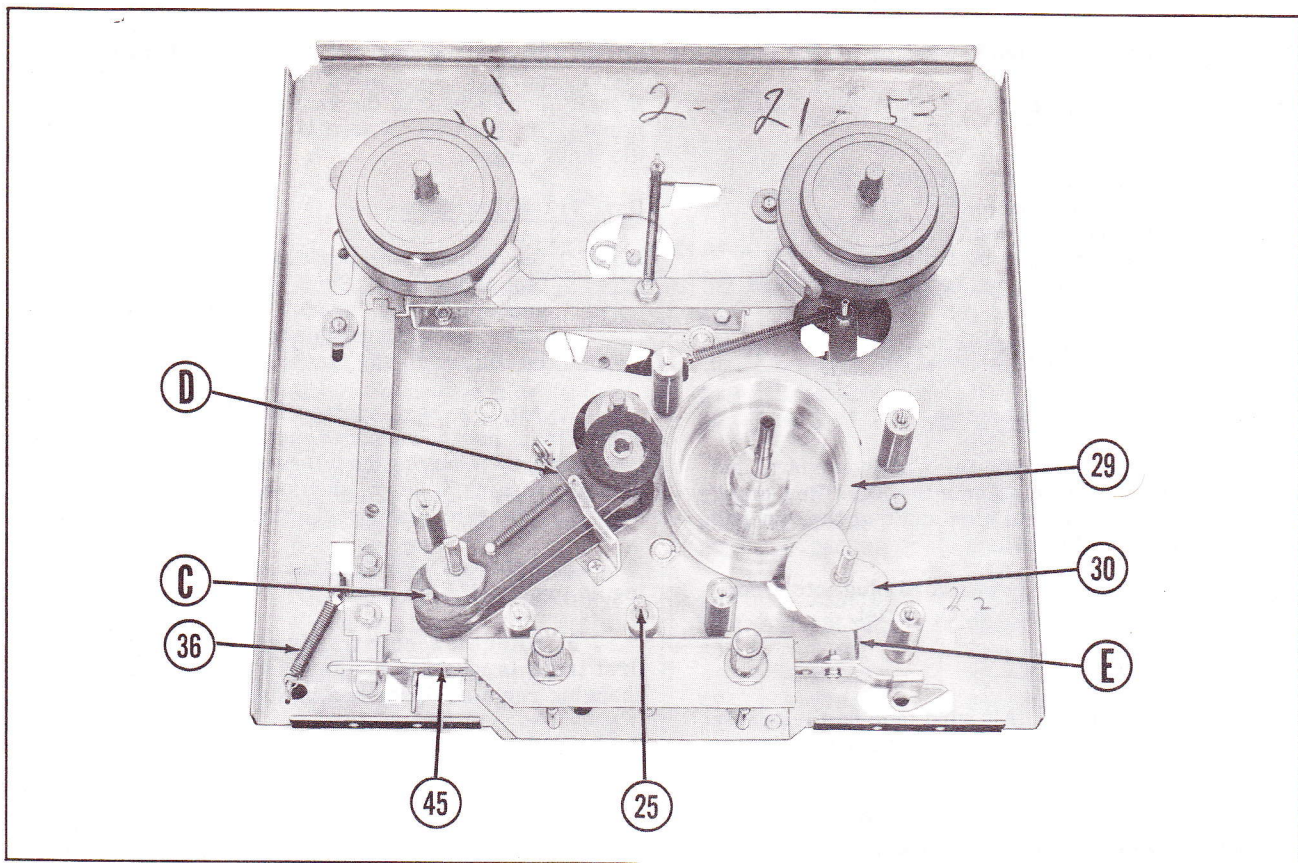

Figure 2
Loosen the fast forward adjustment screw (see Figure 2) about $1/2$ turn. To tighten belt, reach under bottom plate and slide the fast forward and play pulley assembly (71) away from the take-up reel support (8). Move very little at a time as this adjustment is very critical. After adjustment is made, tighten screw.
(Refer To Exploded View And Figure 2)-
1. (For units with serial #14,000 to 15,200 and for units with serial numbers beginning with 25,000, 35,000 and 45,000). Speed cams (40), (41), and (42) must clear the control pins (point "C" Figure 2) by approximately 1/16" when that particular slide is engaged. Position of motor on motor mounting plate and position of motor mounting plate on spacers will effect this. See paragraph on motor mounting.
The control pins (point "C" Figure 2) must be in the center of the speed cam notch (40), (41), or (42), when that particular slide is engaged. To adjust, loosen set screw and turn cam. Spacing between the phenolic slides should be such that they are parallel
2. (For units with serial #14,000 to 15,200 only). The phenolic slides must clear the sides of speed slide bracket (44) when that particular slide is engaged. Speed slide bracket (44) should be located as near the motor pulley and pressure roller (22) as the mounting slots will permit. This will allow full use of the slide springs.
3. (This applies to all units). The speed slide dampers (point "D" Figure 2) must press down firmly on the phenolic slides to hold idler wheels in position when engaged. However, this damper spring must not interfere with the smooth operation of the slide against its spring tension. Adjust damper springs carefully with mounting screws on side of speed slide bracket (44).
(For units with serial #14,000 to 15,200 and for units with serial number beginning with 25,000 and 35,000). Adjust record safety release cam (31) with the run-stop control (2) in the "Run" position. With the point of the cam to the left, adjust cam so that the front diagonal slope of the pointer is parallel to the front of the bottom plate. Adjust height so that it contacts record safety release (point "E" Figure 2) approximately in the center.
With control (2) still in the "Run" position, adjust the safety release (point "E" Figure 2) so that it points to the center of the run-stop control shaft. Adjust by sliding to right or left in the slotted hole. Keep at right angles to the bottom plate. Tighten screw.